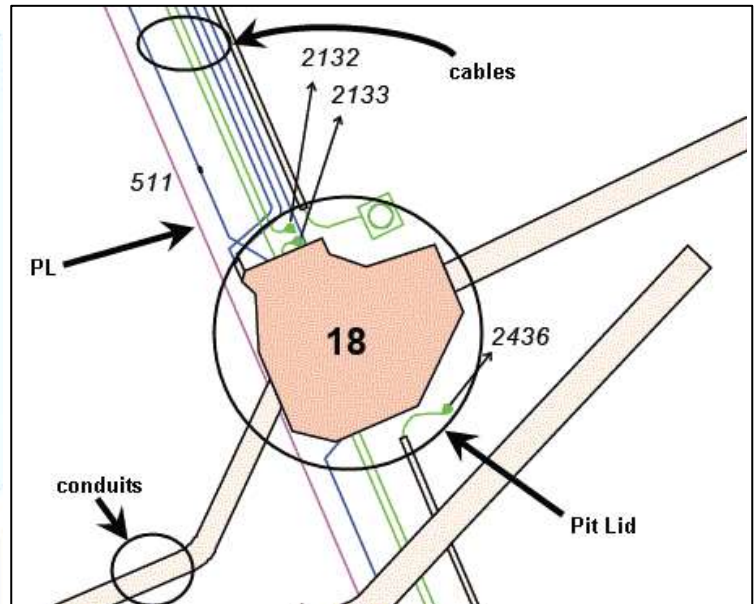

Figure 8
Underground “pits” are numbered on Ausgrid plans, positioned relative to the “property line” (PL), and can be found on either the footpath nature strip or the road (see figure 8)